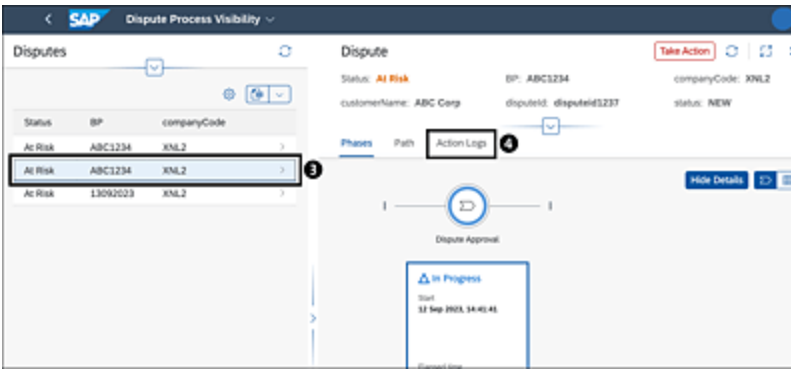
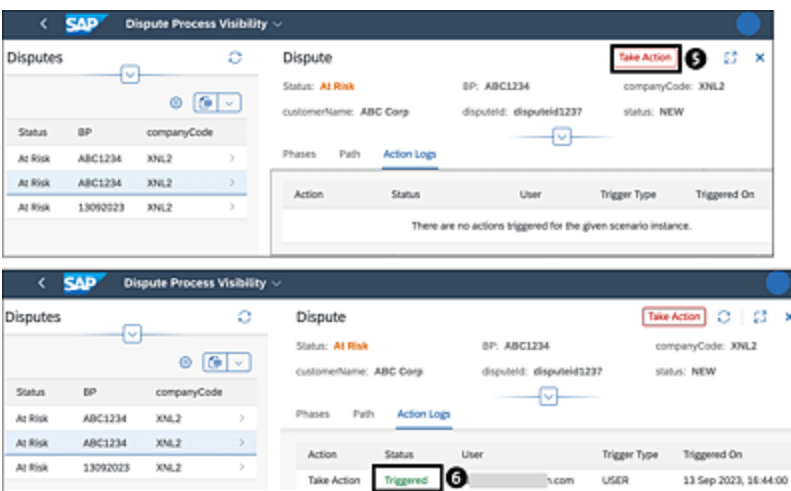

Figure 19.28 Testing Trigger Workflow Action: Steps 3 and 4
Figure 19.29 Testing Trigger Workflow Action: Steps 5 and 6
In the detail screen, click on the record ❷. This will navigate to the next level of detail, as shown in Figure 19.28 and Figure 19.29. On clicking any of the records in the left-hand pane ❸, the right-hand side of the screen will show further details. On the top-right part of the screen, the **Take Action** button appears, showing the action workflow that you configured previously. Before you click on this button to trigger the workflow action, let's go to the **Action Logs** tab in Figure 19.28 ❹.
If you click the **Take Action** button ❺ in Figure 19.29, the DisputeApprovalWorkflow gets triggered, and a record will appear in the action logs list ❻.